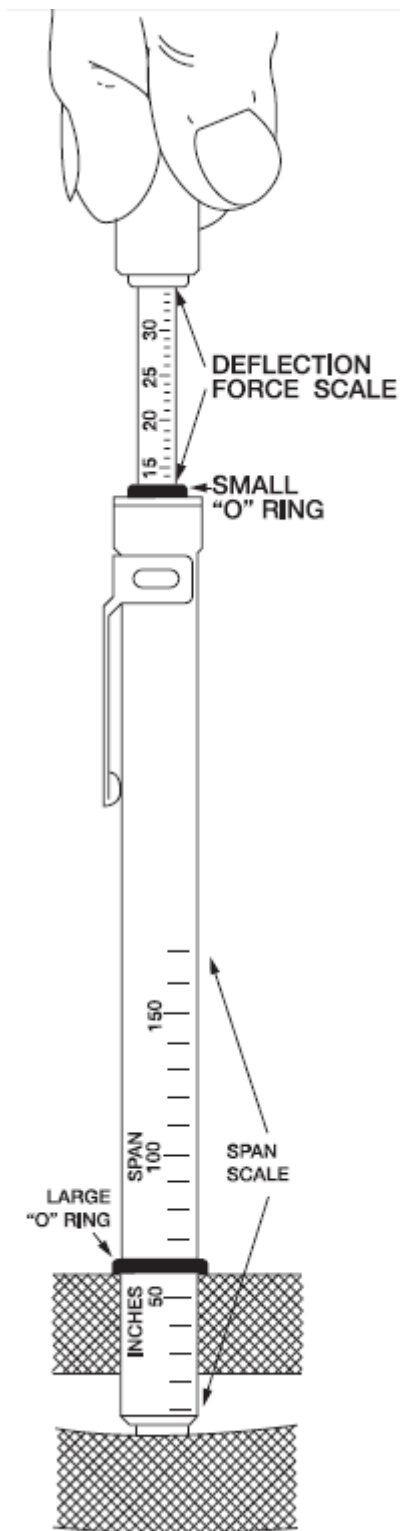

FIG 10.
- Determine the deflection by looking at the millimetre (bottom) scale, and reading the tension (kgf) on the top scale. See Fig 10 on the next page.